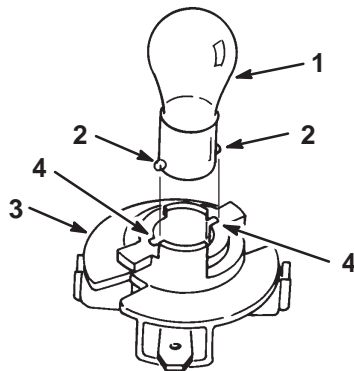

Figure 36
5. Push and rotate the bulb counterclockwise until it stops (approx. 1/4 turn) and remove bulb from the bulb holder (Fig. 36).
1. The bulb has metal pins on the side of its base. Align the pins with the slots in the bulb holder and insert the base into the holder (Fig. 36). Push and rotate the bulb clockwise until it stops.